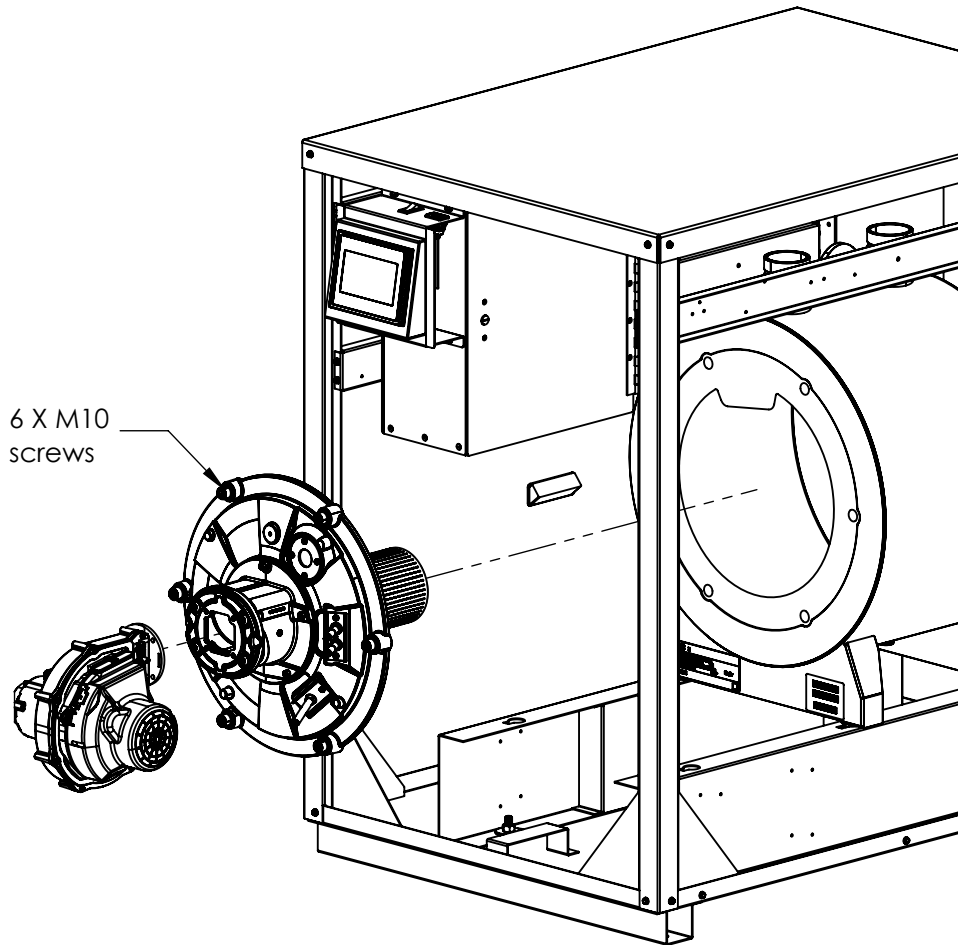

Figure 29: Burner Door Opening
- e. The burner door, blower, and mixer assembly can be pulled out of the appliance jacket as shown in Figure 29.